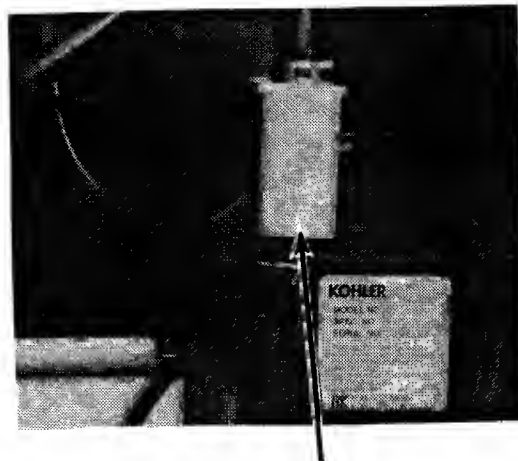

Figure 18. In-line fuel filter.
2. Slide the hose clamps off. Remove the filter. Refer to Figure 18. Collect fuel in a suitable container.